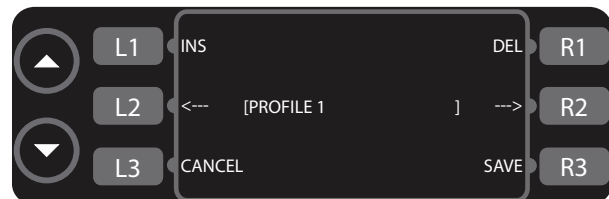

Figure 7: Name Change Screen
1. Press L1 (fig. 6) to access the name change screen (fig. 7).